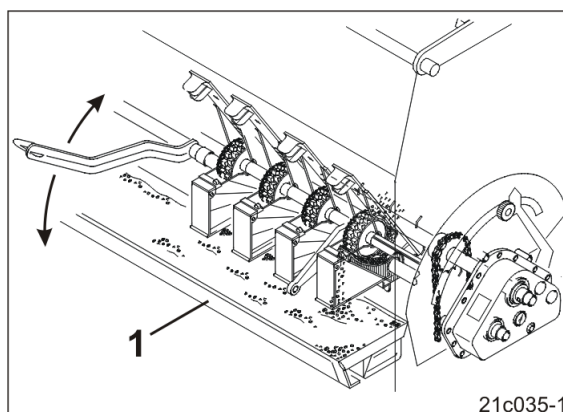

Fig. 222
6. Place the calibration trays (Fig. 222/1) on the funnel rail, (see section "Placing the calibration trays on the funnel rail", page 116).